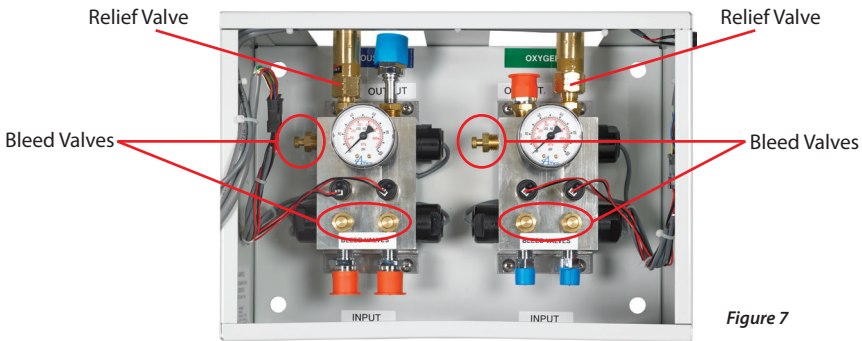

Figure 7
5. Locate the Bleed Valve for oxygen. (Refer to figure 7)